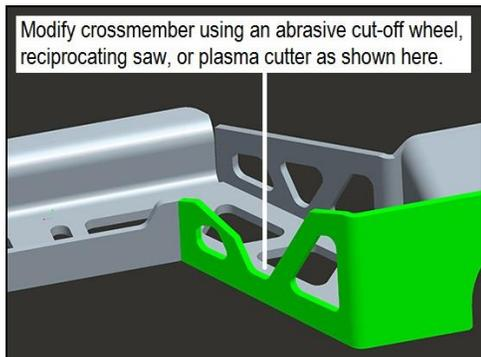
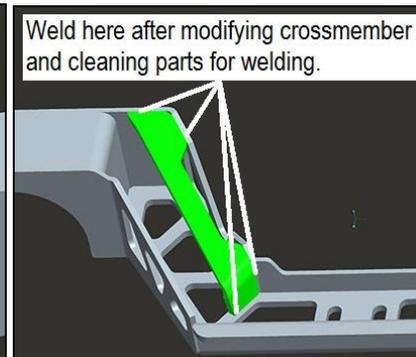

Figure 4
Figure 6
2. If you are using this spacer block kit to install a 2004R into a GM 1st-gen F-body or 3rd-gen X-body using the Hooker Blackheart 12626HKR T56 crossmember, modify/cut the inside left upright wall of the crossmember to match what is shown in **Figures 4 and 5** below. Once modifications are complete, clean parts and weld them together using either a MIG or TIG welder, as indicated in **Figure 6** below and spot-paint as desired to match. Install the crossmember per the instructions contained in its packaging while installing the spacer block included in this kit between the crossmember and transmission isolator. Use the included long fasteners to attach the transmission mount to the crossmember.